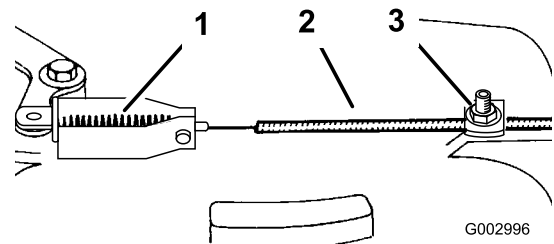

Figure 30
3. Loosen the cable clamp screw until the brake cable conduit slides (Figure 30).